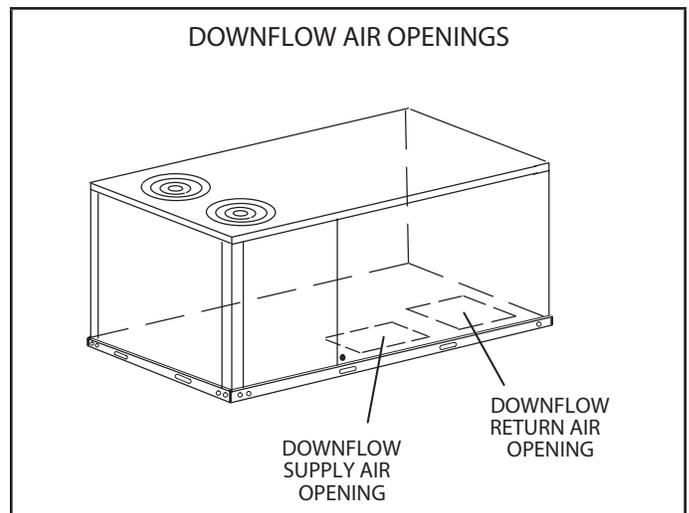
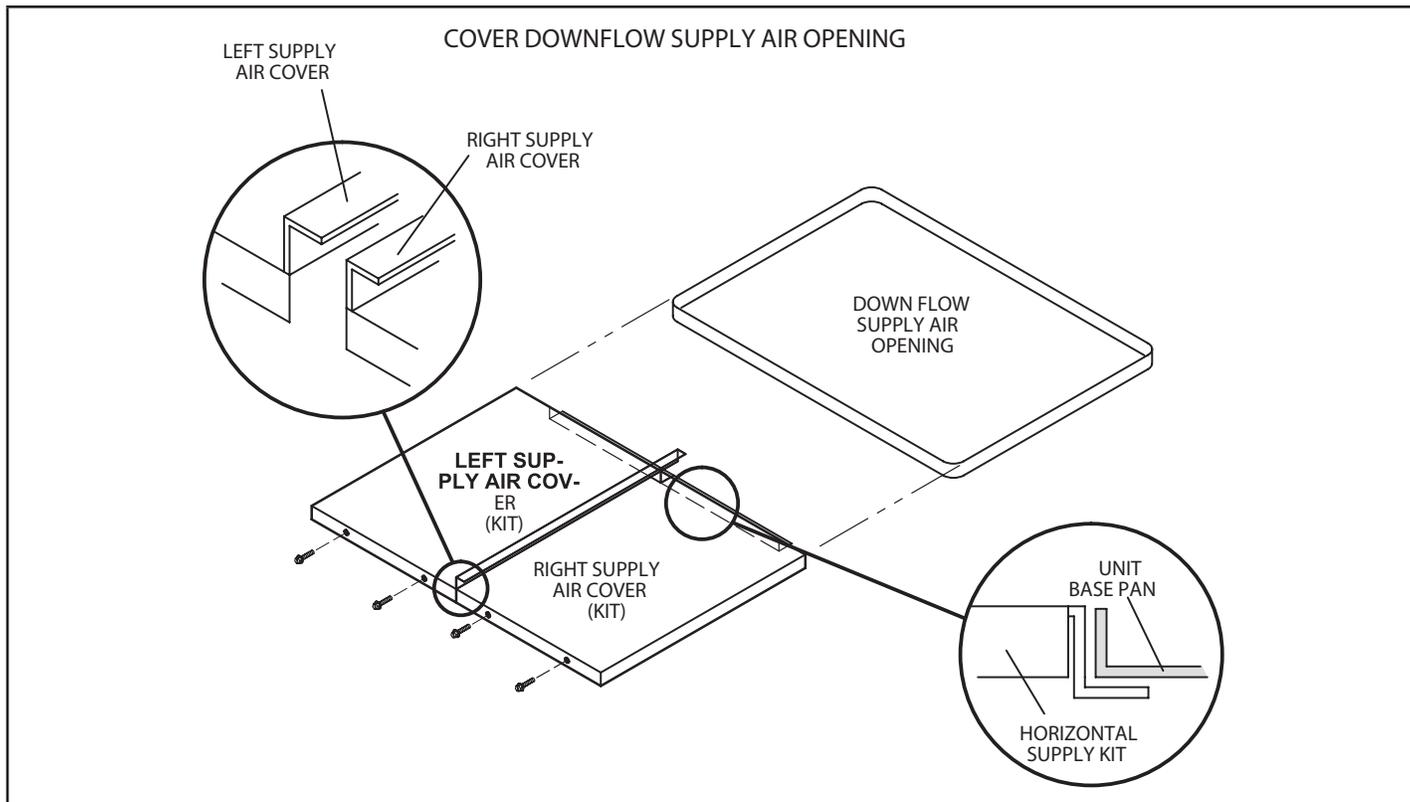

FIGURE 3
FIGURE 4
- 4 - Install the supply air covers over downflow supply air opening. Center flanges will overlap and rear flanges fit underneath unit base pan. Secure cover in place with 4 screws provided. See FIGURE 3 and FIGURE 4.